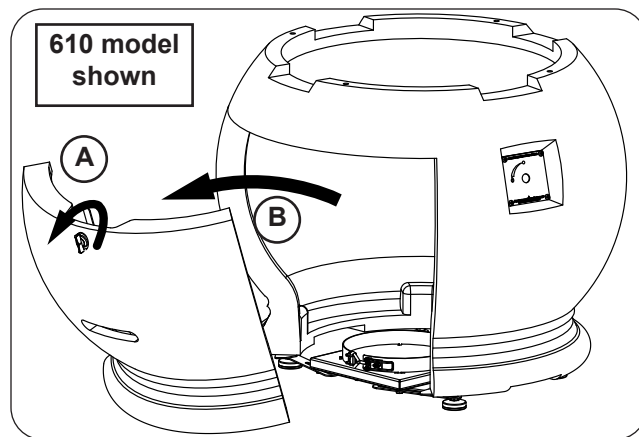

Fig. 26-1 Place base and remove door
1. **Carefully** remove the valve and burner assembly from the base, then **carefully** place the base in an appropriate location (see Fig. 26-1, and refer back to the LOCATION section if needed).
2. Remove the storage door by first turning the door handle counter-clockwise, then carefully pulling the door outward (see Fig. 26-1). Store in a safe location.